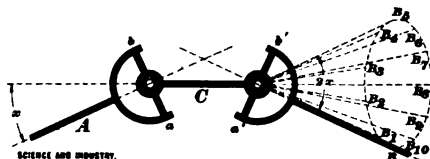

FIG. 2.
mechanism. We think, however, that a patent of this kind could not be sustained. You may find out if a patent exists, as well as the name of the patentee, by having a patent attorney make a search for you in the patent office at Washington. The usual fee is \$5.00. (b) Working satisfactorily means for a mechanism first of all that it fulfils the purpose for which it is intended. Now the purpose of using two universal joints connected by an intermediate shaft is to have uniform motion of the driving shaft *A* result in uniform motion also of the driven shaft *B*, otherwise one coupling would suffice. To secure the uniform motion of *B*, however, two more conditions must be fulfilled, namely: (1) The angle between shafts *B* and *C* must be equal to that between *A* and *C*. Thus, if the position of *A* and *C* is fixed, the center line of *B* may have any position on a cone whose apex angle is double that between *A* and *C*, as indicated in Fig. 2, at *B*, *B*₁, *B*₂, etc. (2) The two couplings must be symmetrically arranged; that is to say, the member *ab* of the cross of the one must fall into the plane determined by *A* and *C* at the same time as the member *a'b'* of the other falls into the plane determined by *B* and *C*. The last condition is not fulfilled in the device shown, which will have the effect that instead of the irregularity of motion imparted from *A* to *C* by the first coupling being neutralized by the second coupling, it will be doubled. The device will thus not work satisfactorily in any case until you turn either one of the couplings 90°. Supposing the evil just mentioned to be remedied, the angle *z* is limited by (1) interference of the parts; (2) vibrations caused in the middle section *C*, its motion, unlike that of *A* and *B*, not being uniform. At moderate speed, however, the